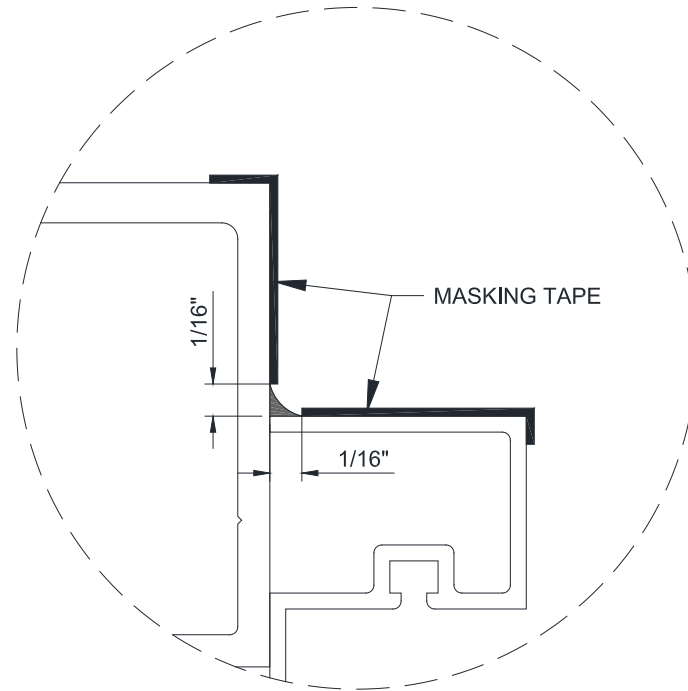

Figure 33: Interior Seal along Sashes
- 11.3 Mask off Transom Sash and Door Jamb with 1" wide (minimum) low-adhesion masking tape. Reference Figure 33 for masking tape application location.